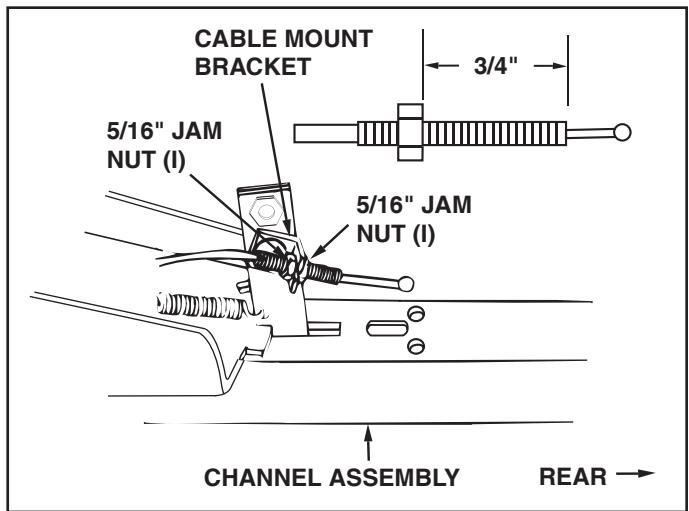

FIGURE 15
- Assemble a 3/8" x 1-1/4" carriage bolt (E) through the square hole in the cable mount bracket and through the square hole in the angle lock bars. (The carriage bolts should face in opposite directions.) Using pliers hold the cable mount bracket in position, angling down towards the L.H. hole in the channel as shown in figure 15. Secure with a 3/8" nylock nut (L). **Tighten**. Refer to the figure for the correct angle for the cable mount bracket.
### STEP 15: (SEE FIGURE 15)